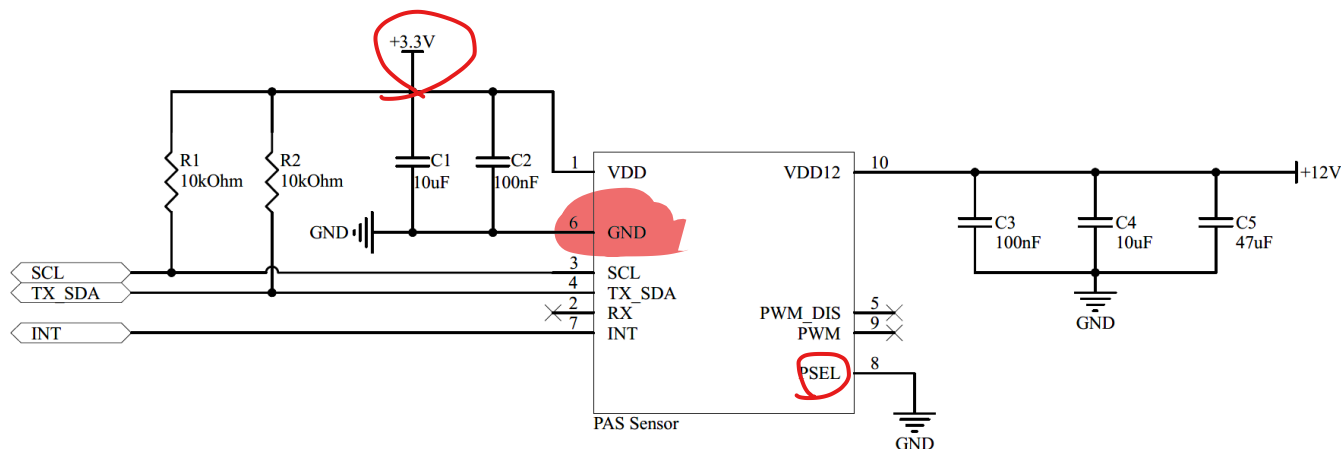

Figure 5 Application circuit example
- Connect all the necessary pins as seen in Figure 5 of the XENSIV™ PAS CO2 Sensor2Go Kit to the microcontroller (power off).